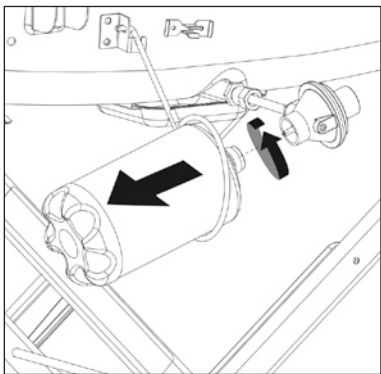

Figure 4
2. Rotate LP gas tank counterclockwise until it is loose (Figure 4).
If your unit was assembled for you, visually check the connection between the burner venturi pipe and orifice. Make sure the burner venturi pipe fits over the orifice. Please refer to diagram for proper installation (Figure 4).